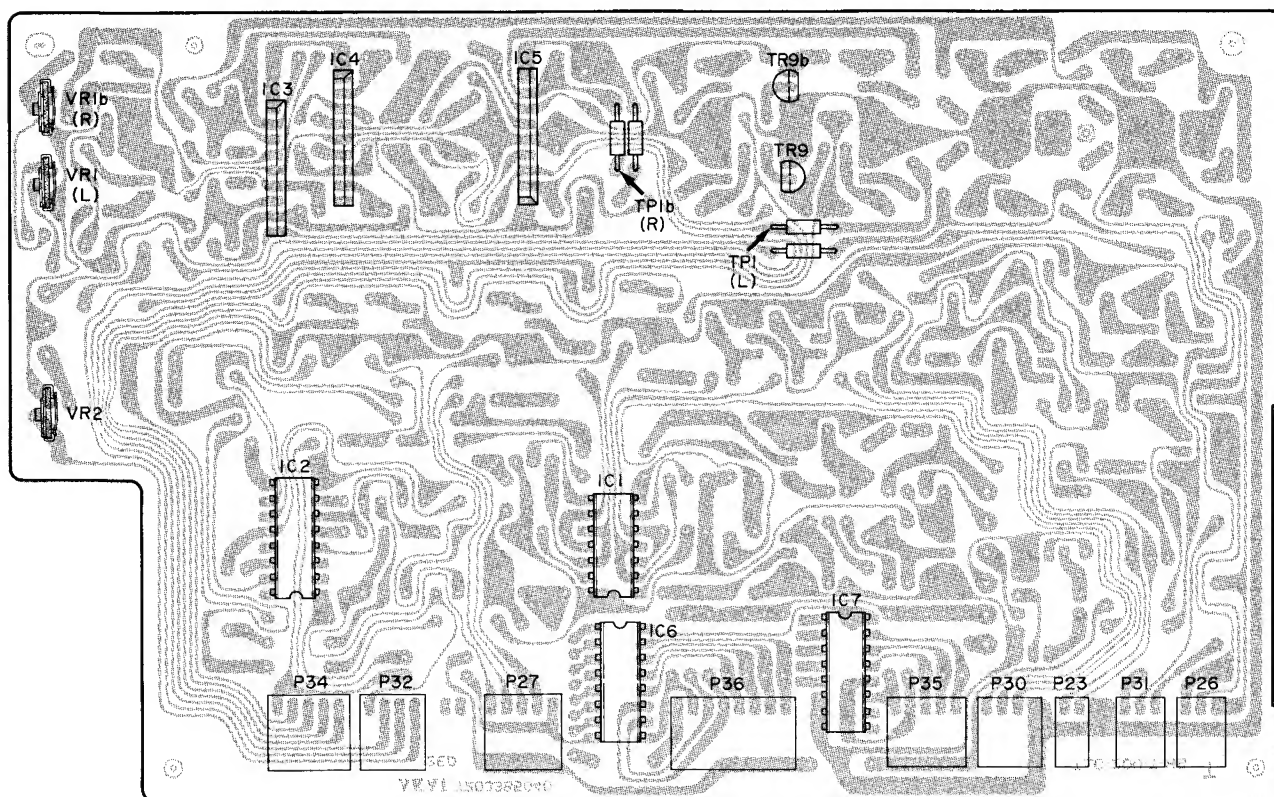

Fig. 2-18 Meter Drive PCB (Parts Side View)
1. METER ADJUSTMENT (Fig. 2-18)